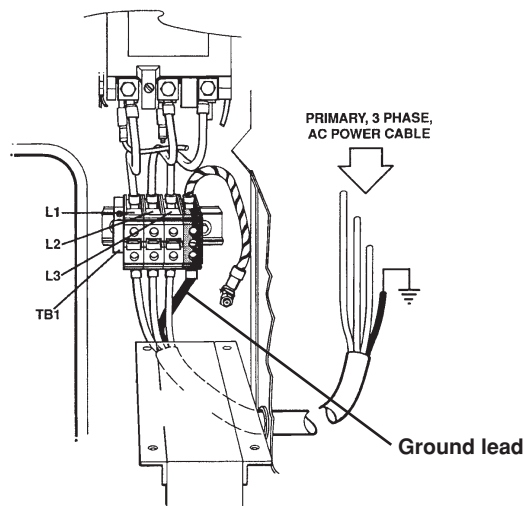

Figure 3-3 Power Cable Connections
2. Connect the power leads to the **L1**, **L2**, and **L3** terminals of **TB1**. See Fig. 3-3.